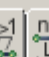

Figure 9.12 Numerical description for FE 56 dialog box
- ⇒ In the **Numerical description for FE 56** dialog box (see Fig.9.12), specify the following parameters for the section: